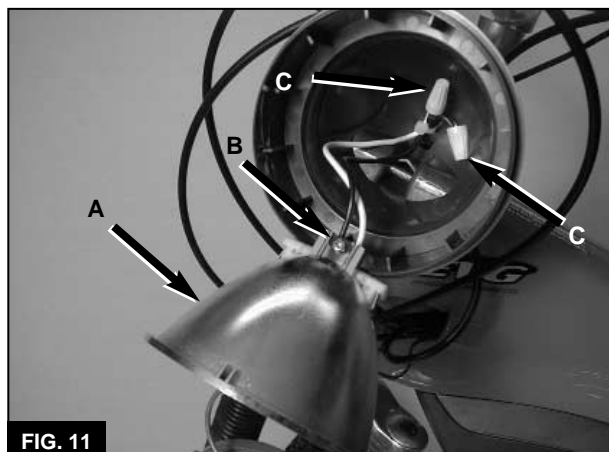

FIG. 11
3. Remove the headlight reflector (A, **Figure 11**) from the housing.
4. Loosen the set screw (B, **Figure 11**), and remove the bulb socket from the headlight reflector.
1. Slide the socket into the headlight reflector, and secure the socket in place with the set screw (B, **Figure 11**).
2. Fit the reflector (A, **Figure 11**) into the headlight housing. Be sure the cutouts in the reflector engage the tabs in the housing.